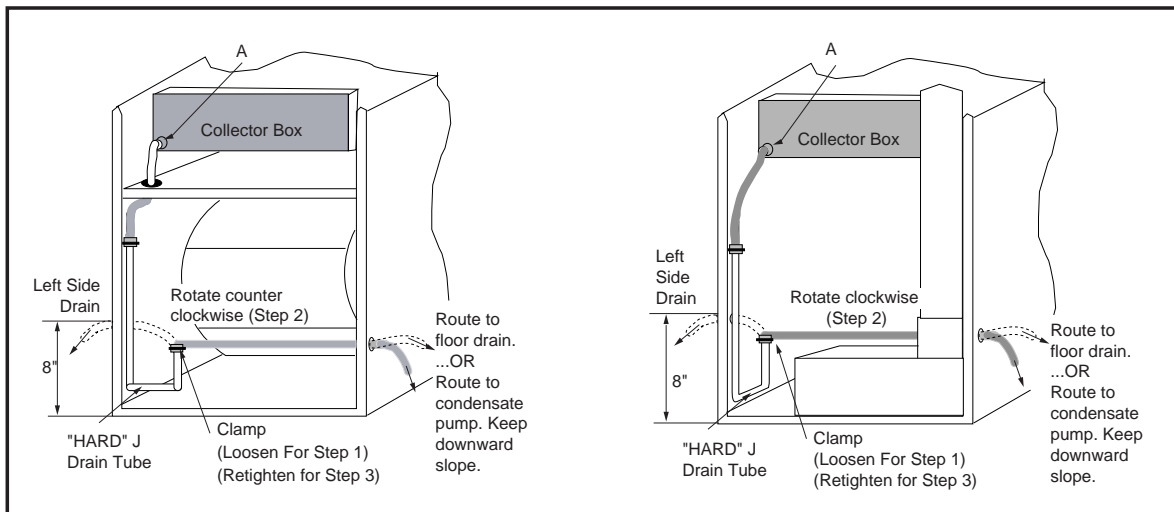

Figure 20. Furnace with Condensate Drain Trap Assembly
The condensate drainage system is internal to the furnace. The drain may exit either the right or left side of the furnace cabinet. For a right side drain, simply extend the tubing out of the 7/8" hole in the cabinet (See Figure 20).
1. Loosen the clamp on the soft exit tube (see Figure 20.)
The condensate should drain from the plastic collector box (location A in Figure 20) as droplets or a small stream. If you notice the furnace has operated for more than 5 minutes without draining or the red status light on the control board is pulsing a 2-blink code follow the steps below.
1. Remove the collector box soft tube at location A in Figure 20 and insure the exit from the collector box is clear of any debris or obstructions.